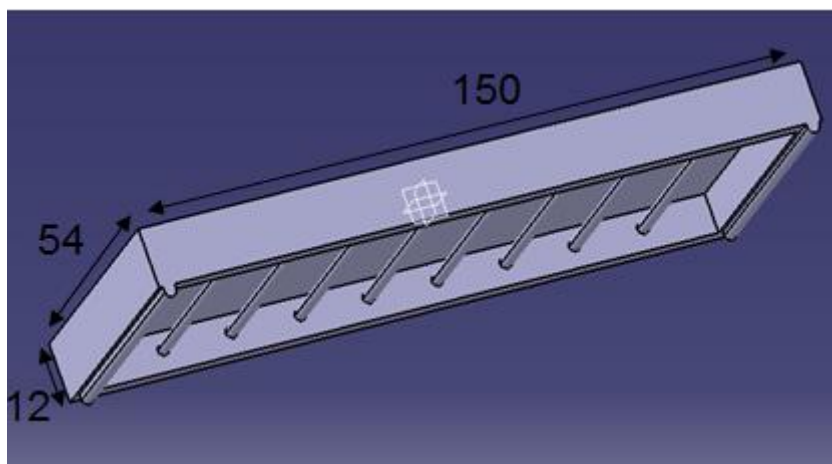

Figure 3.3:Heaters
1. heaters: uses to heat the plastic. (**Figure 3.3**)